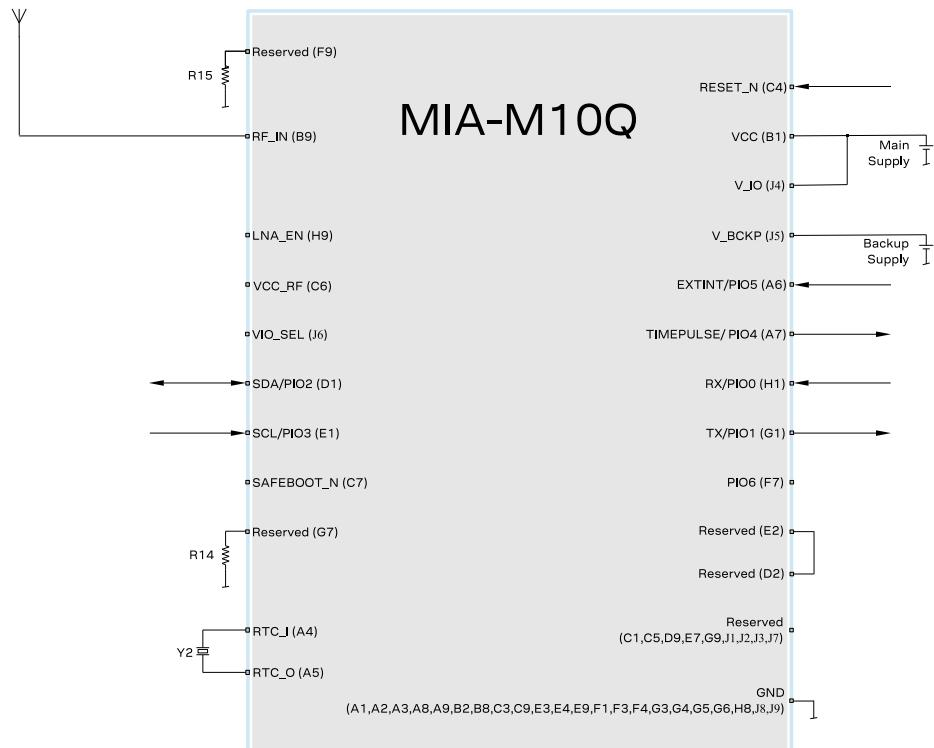
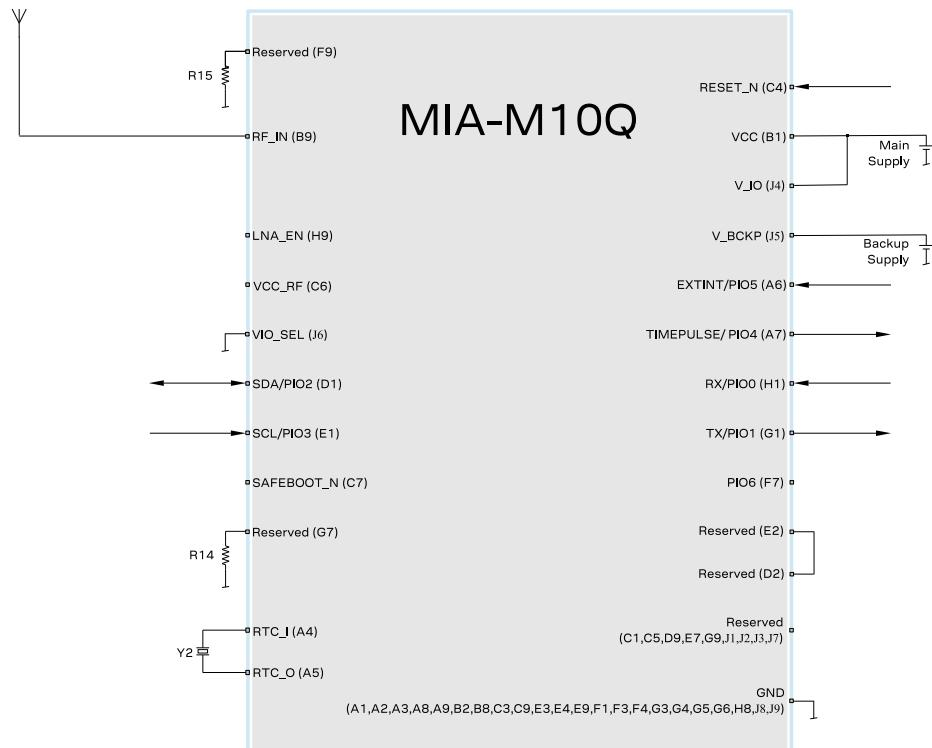

Figure 35: Typical 3.3 V design
Figure 36: Typical 1.8 V design
- VCC and V_IO are connected together to a single supply. In designs with 3.3 V supply, the VIO_SEL pin must be left open, as shown in Figure 35. In designs with 1.8 V supply, the VIO_SEL pin must be connected to GND, as shown in Figure 36.